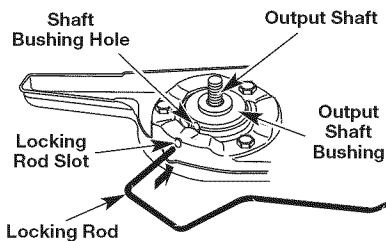

Fig. 7
1. Align the shaft bushing hole with the locking rod slot and insert the locking rod into the bushing hole (Fig. 7).
3. Align the shaft bushing hole with the locking rod slot and insert the locking rod into the bushing hole (Fig. 7).